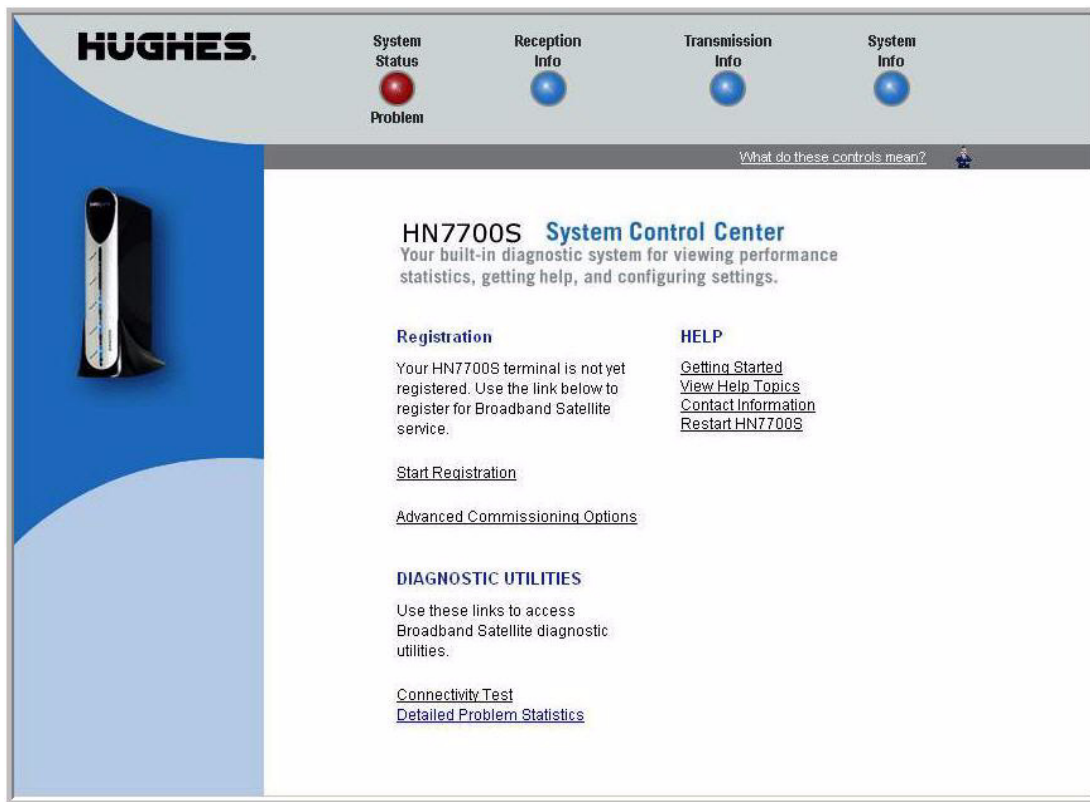

Figure 8: Advanced Commissioning Options link
4. Click Advanced Commissioning Options as shown in Figure 8.